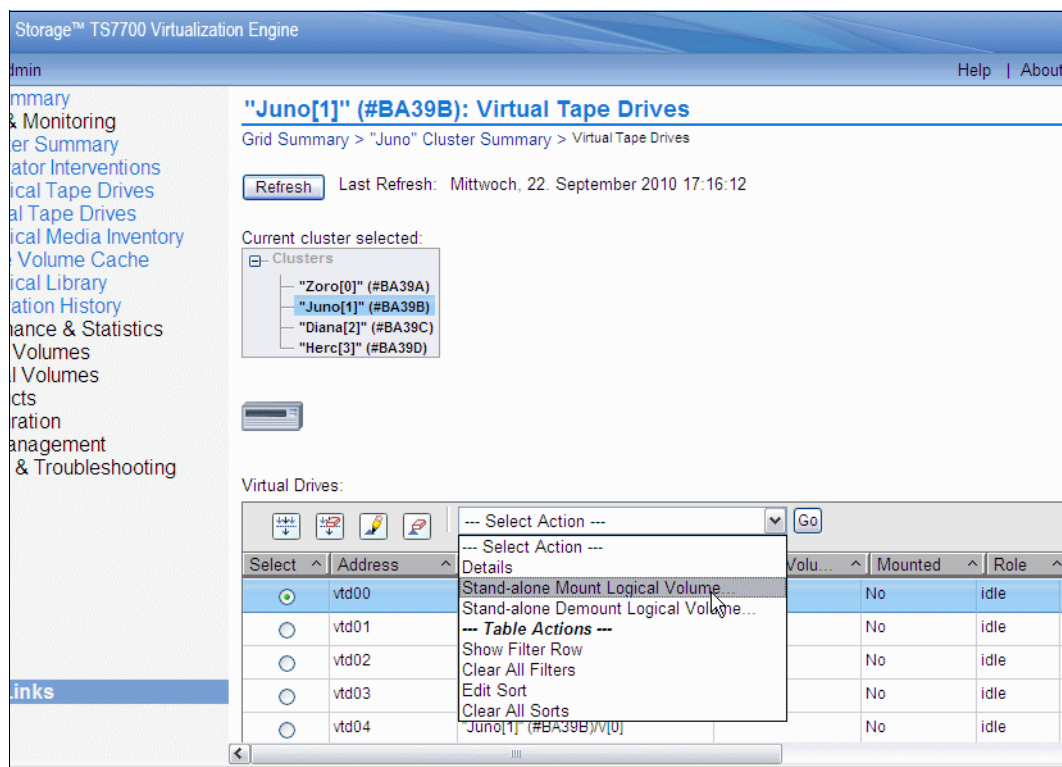

Figure 7-12 Virtual Tape Drive Panel
2. Set in stand-alone mode the virtual device from which you will load the Stand-Alone Services program by selecting Virtual Drives on the TS7700 management interface of the cluster where you want to mount the logical volume as shown in Figure 7-12.
6. Take the IPL device out of stand-alone mode by selecting **Stand-alone Demount Logical Volume** on the Virtual Drives panel (see Figure 7-12 on page 400).